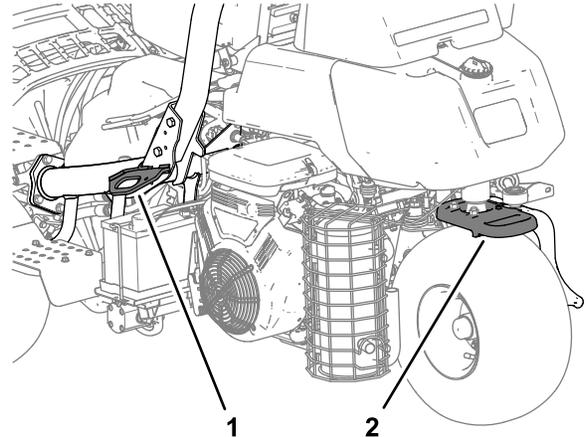

Figure 35
- Tie the machine down securely using straps, chains, cable, or ropes. Both front and rear straps should be directed down and outward from the machine (Figure 35).